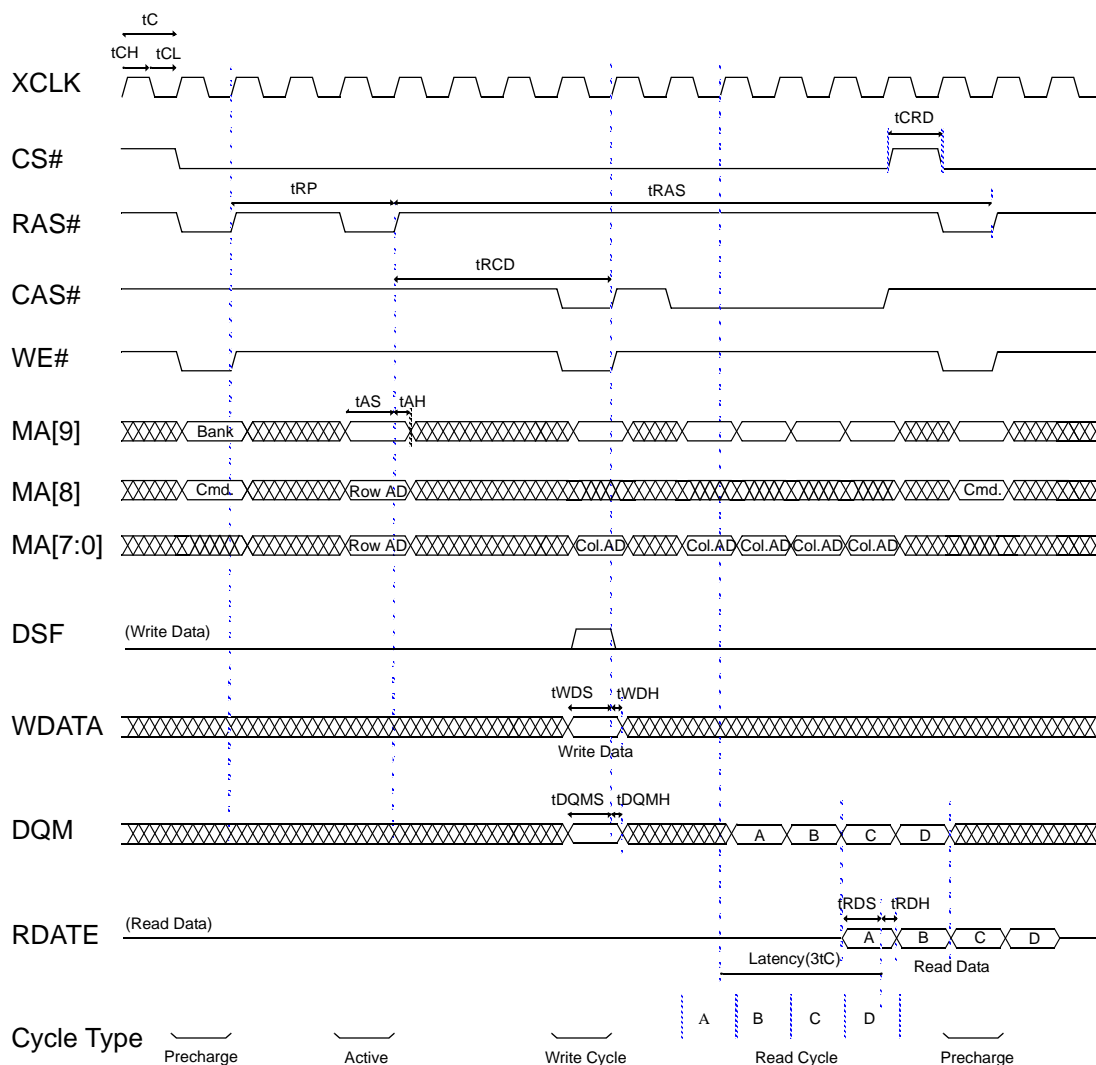

Figure 5-8. SDRAM / SGRAM Cycle Timing
- SDRAM/SGRAM Cycle Timing, see Figure 5-8.